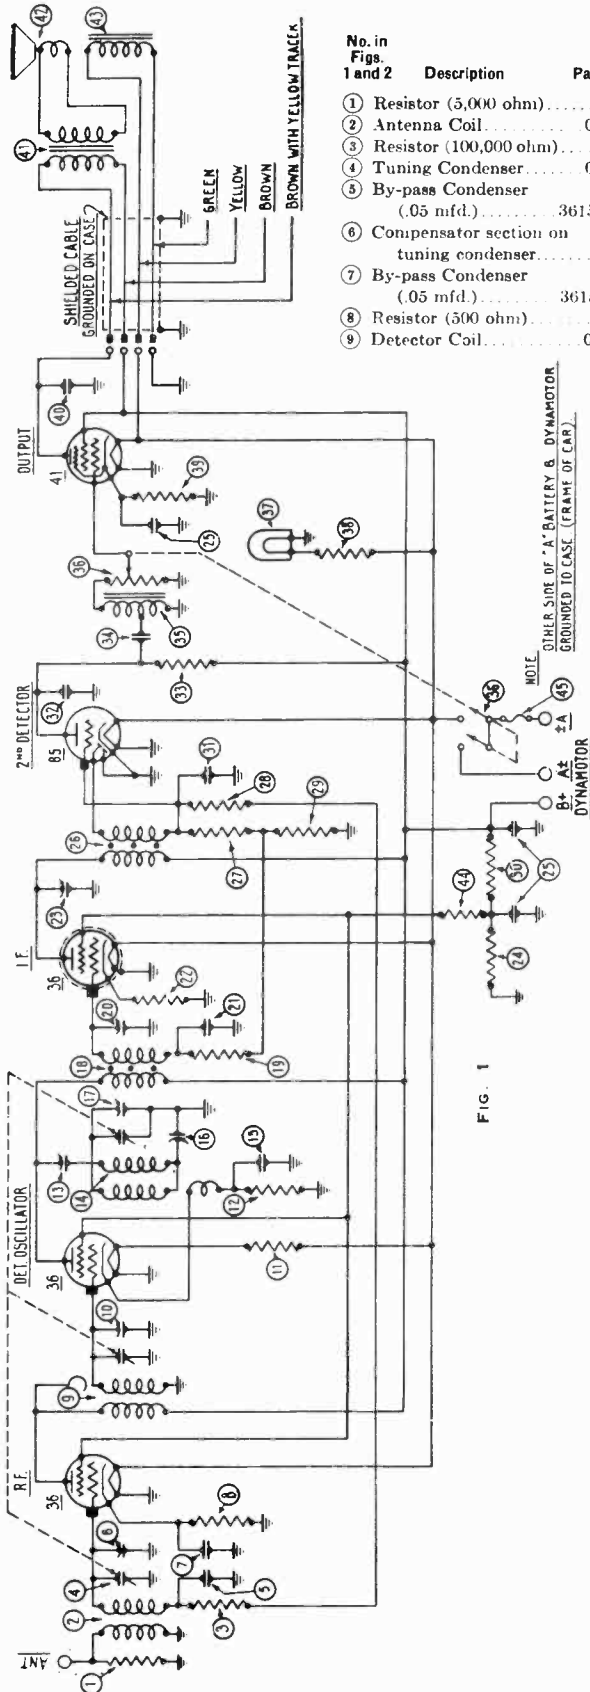

FIG. 1
Now tune the Receiver to 700 K.C. and adjust the condenser (16) on figs. 1 and 2. During this operation the tuning condenser must be shifted and the compensator must be adjusted to bring in the maximum signal.